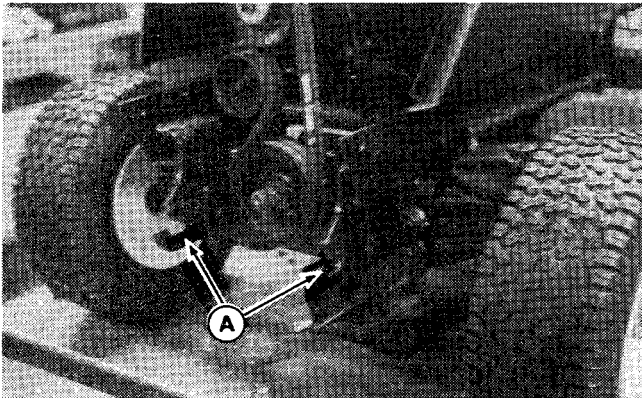
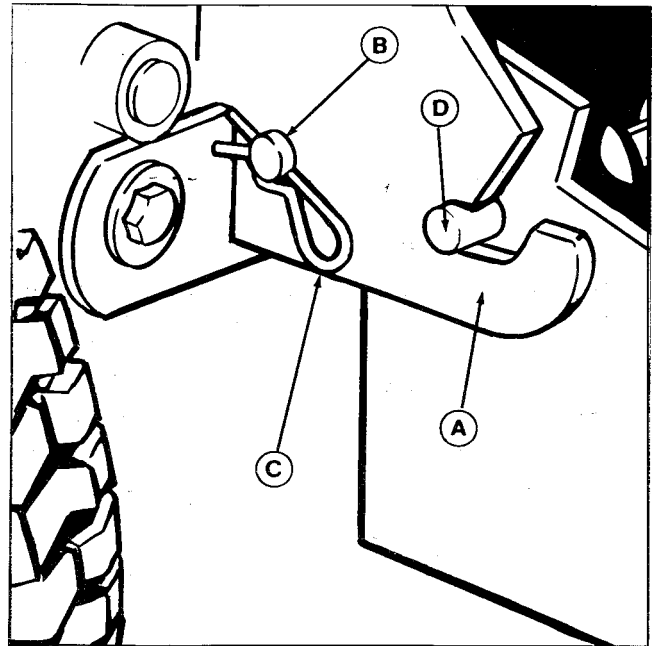

Figure 5.
Figure 6.
5. Position the dozer blade assembly in front of tractor hitch (figure 5). Raise the dozer hitch, and hook the pins (D), figure 6) onto the tractor hitch (A). Then raise the bar on either side of hitch. Insert pin (B) through hole in bar and tractor and secure pin with a clip (C).